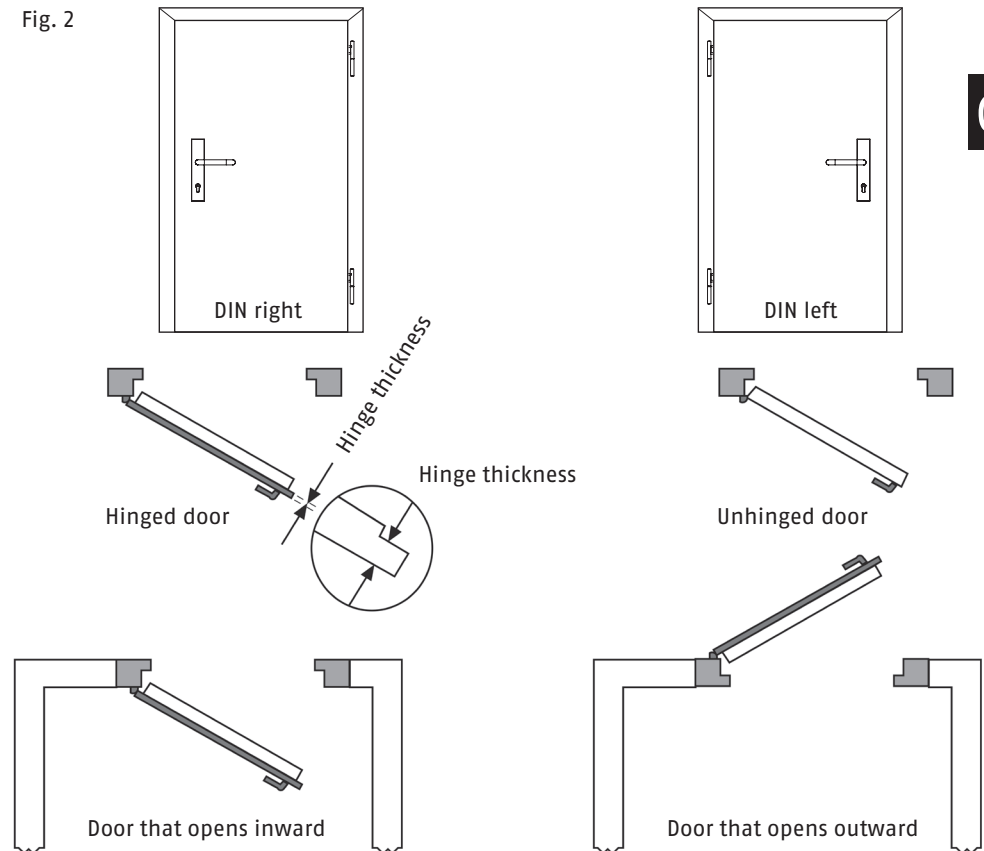

Fig. 3
**We recommend fitting beneath the mounting (Fig. 3).**
1. Set and mark the position of the lock body on the door panel (Fig. 3+4).